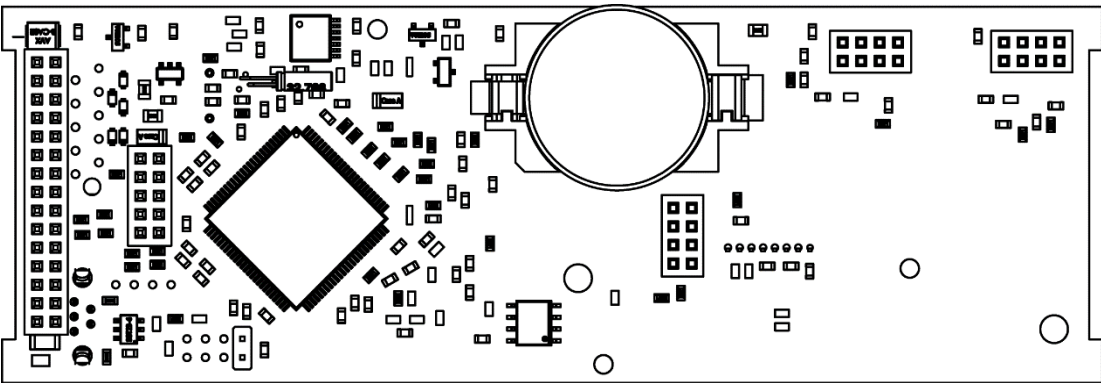

Fig. G.3 Back side view of the top board
3. Turn over the top board, pry and pull out of the nest the CR2032 battery using a screwdriver (Fig. G.3).